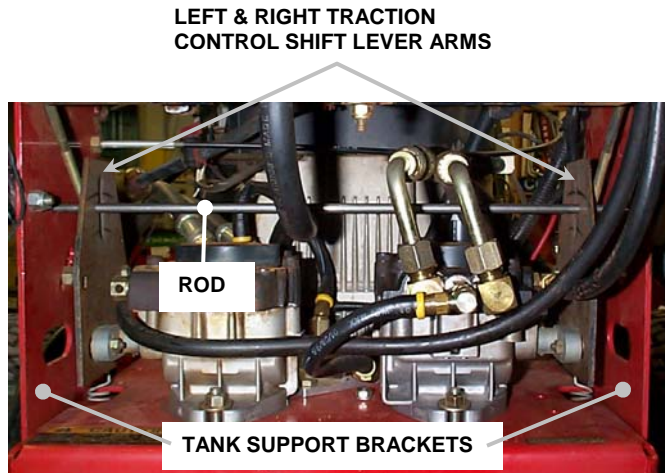

FIGURE 3.8
**STEP 3:** Insert rod (5/16" diameter x 20" long) through alignment holes in the left and right traction control shift lever arms and the tank support bracket. The rod should pass through both the left and right traction control shift lever arms. See Figure 3.8.